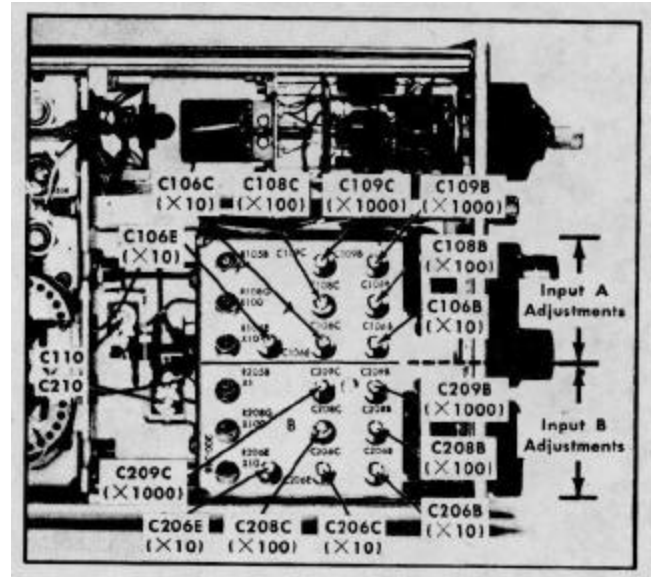
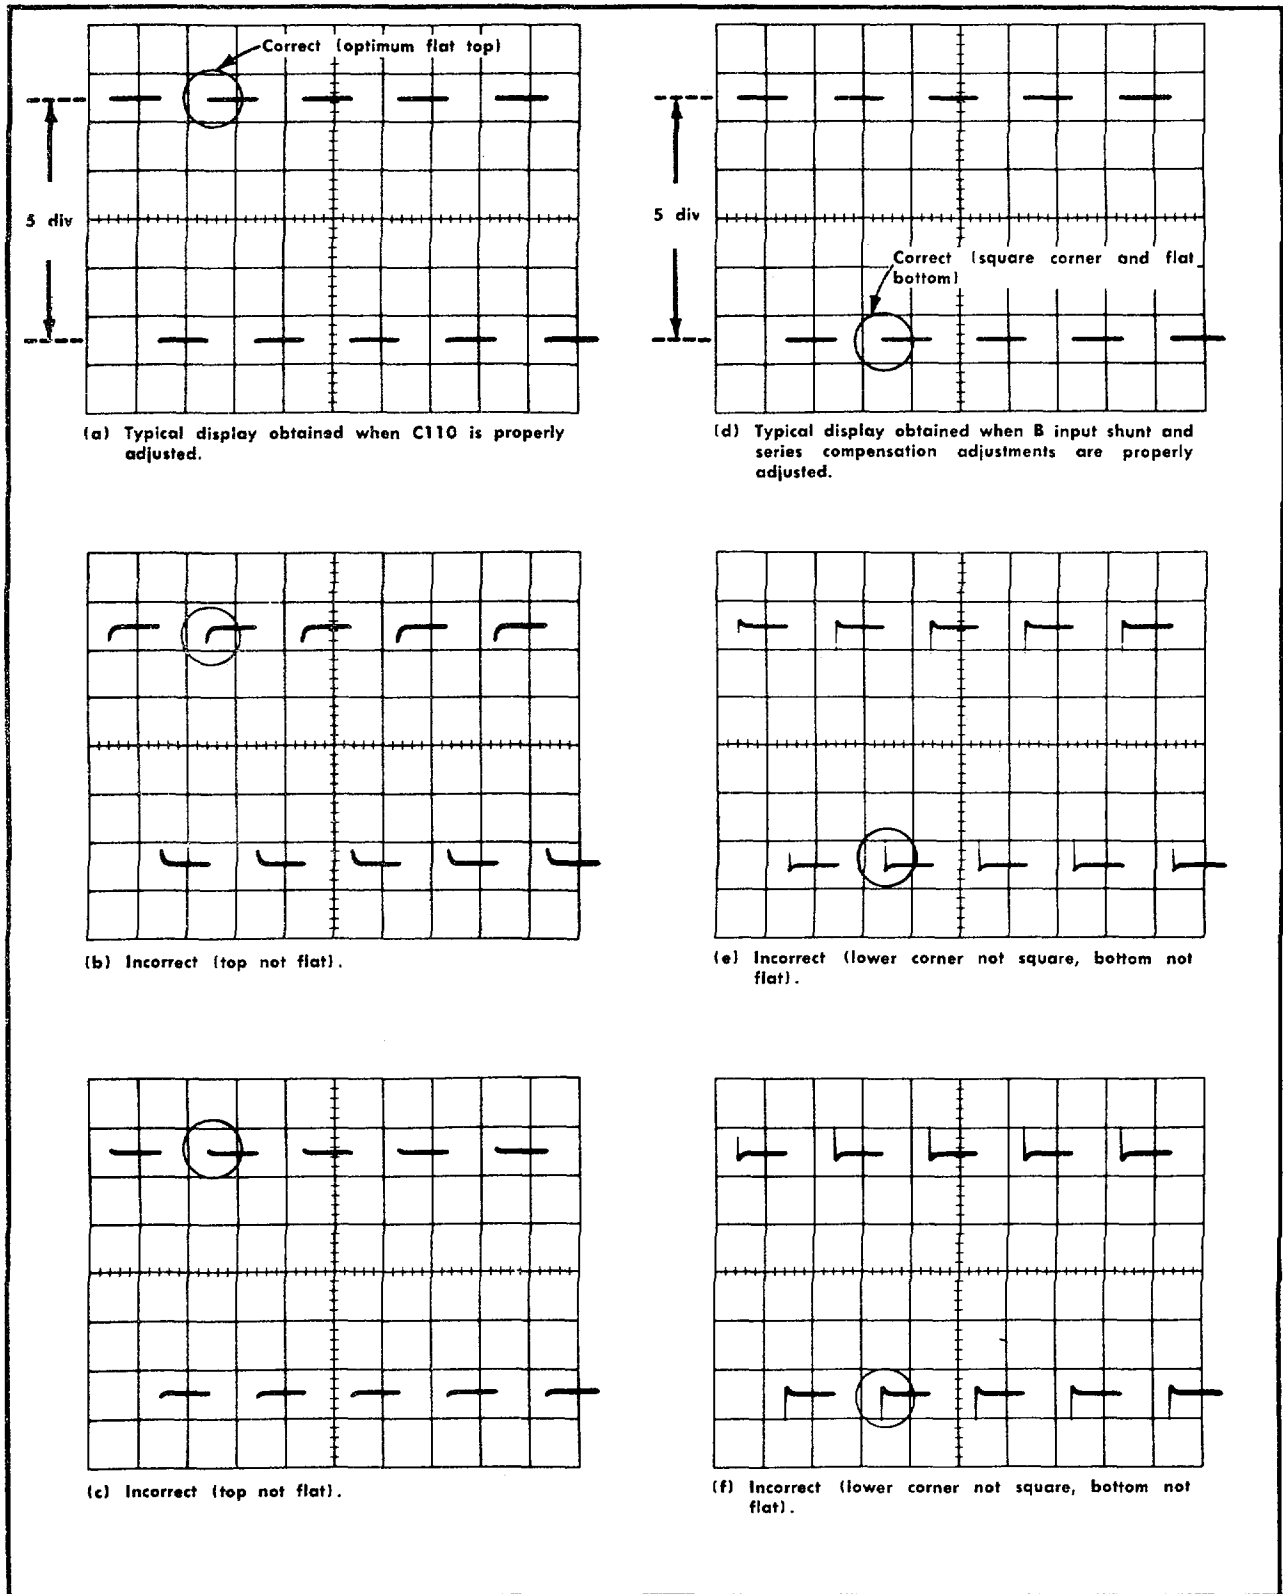

Fig. 5-41. Location of step 34 adjustments.
Fig. 5-42. Typical waveform obtained when compensating the attenuators.
d. Using Table 5-5 as a guide, start with adjustment C110 (see Fig. 5-41). Fig. 5-42a shows the correct display
¹For input A, adjust waveform for best upper front corner and flat top. For input B, the waveform is inverted so adjust for best lower front corner and flat bottom. See Fig. 5-41 for adjustment locations and Fig. 5-42 for typical waveforms